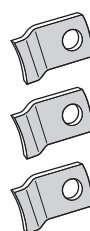

Fig. 4
3 clamps (Fig. 4)
- 3 clamps (Fig. 4)